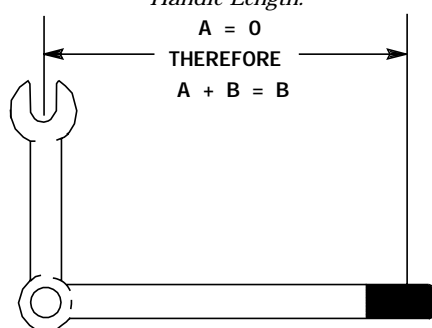

Figure 7-2. Extension Perpendicular to Wrench Handle
b. When extensions are perpendicular to wrench handles, similar to figure 7-2, then: